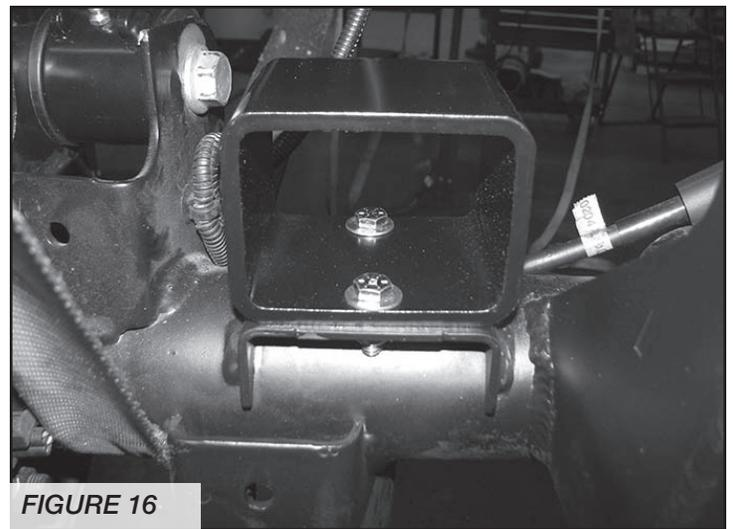

FIGURE 16
22. Locate FT50724 Rear Bump stop Spacer. Position the spacer onto the factory bump stop pad on the axle and attach with the supplied 5/16" x 1" bolts and hardware (mount the spacer to the axle with the offset of the spacer to the front of the Jeep). SEE FIGURE 16